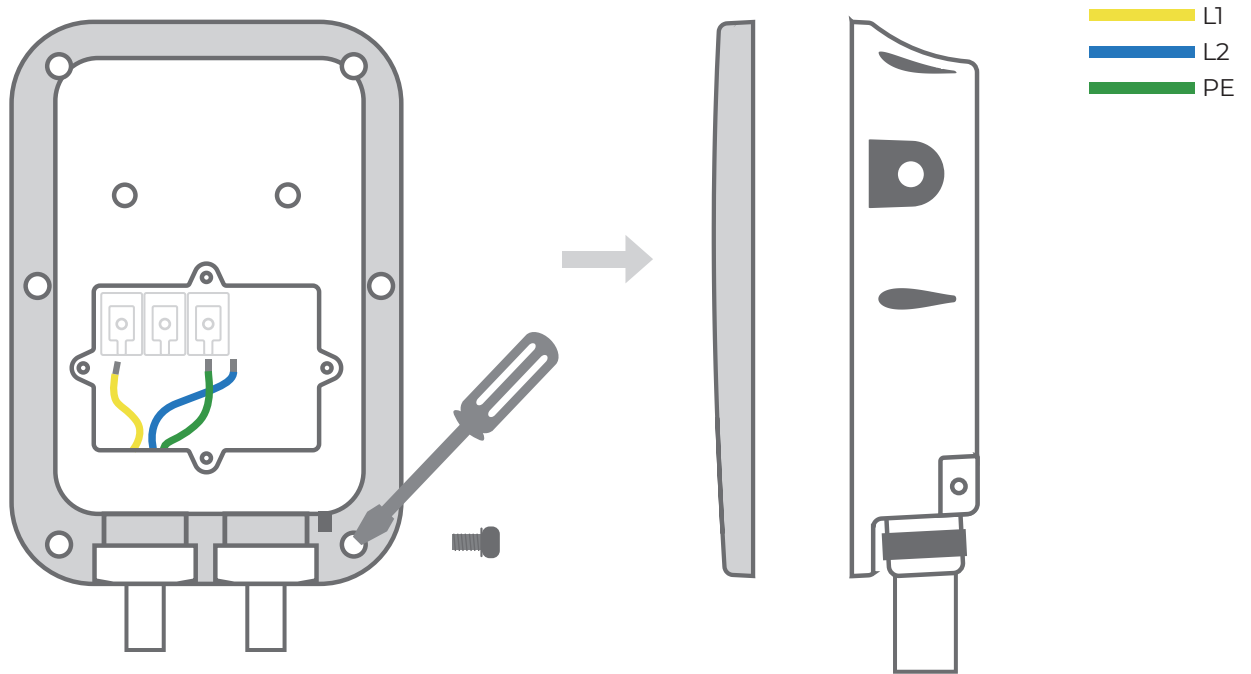

Fig. 5.6.5
5. Unscrew all six screws with the Phillips screwdriver, and take the back cover off. (See Fig. 5.6.5)